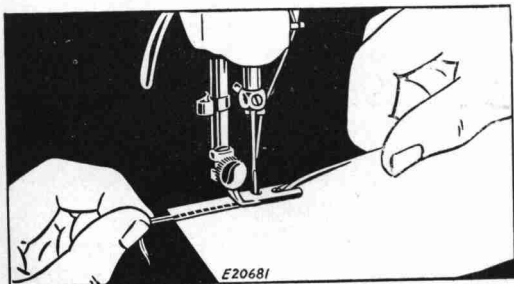

FIG. 36A. HEMMING EDGE OF MATERIAL AND PULLING BACK THREADS WHILE SEWING
(4) Lower hemmer and commence to sew, slightly pulling threads back while sewing. **Keep mouth of hemmer full to produce a smooth, even hem,** as shown in **Fig. 36A.**